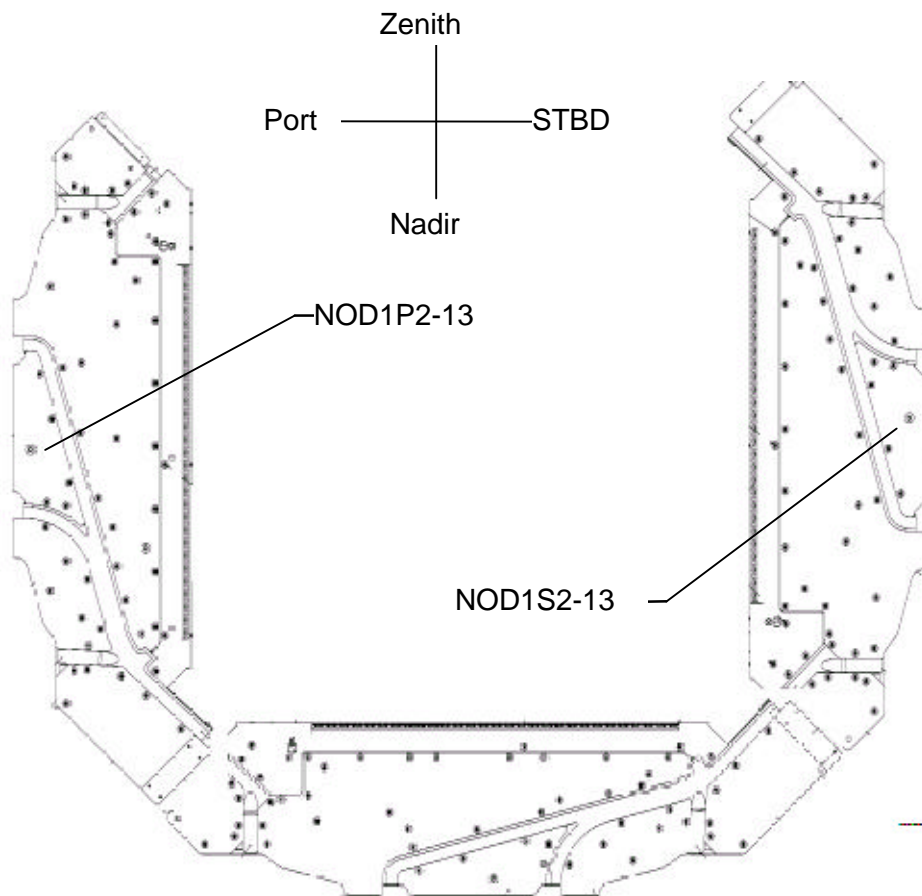

Figure 3.- Hatch Radial Closeout Panels looking FWD.
2. Steps 18 --- 21 must be performed on Stbd Hatch. These steps should be completed for Port Hatch during Node closeout on the ground. Refer to figures 3 and 4.